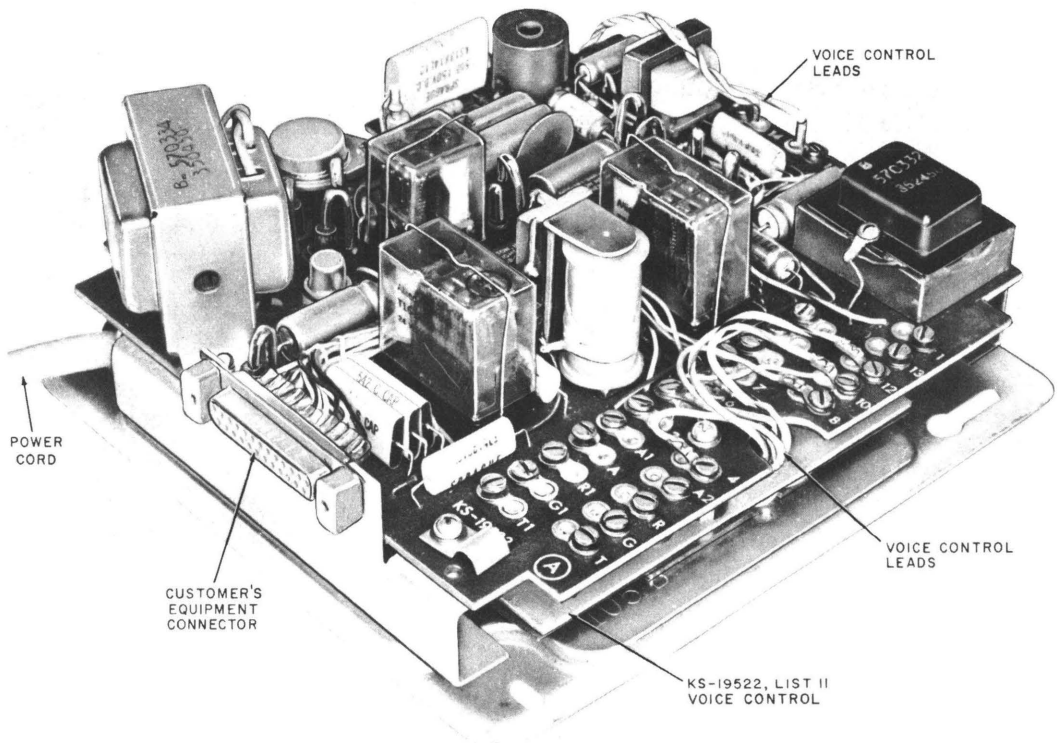

Fig. 3—KS-19522, List 2 Recorder Coupler (Cover Removed)
- Coupler, Recorder, KS-19522, L2 (one-way transmission, automatic disconnect, Fig. 3)